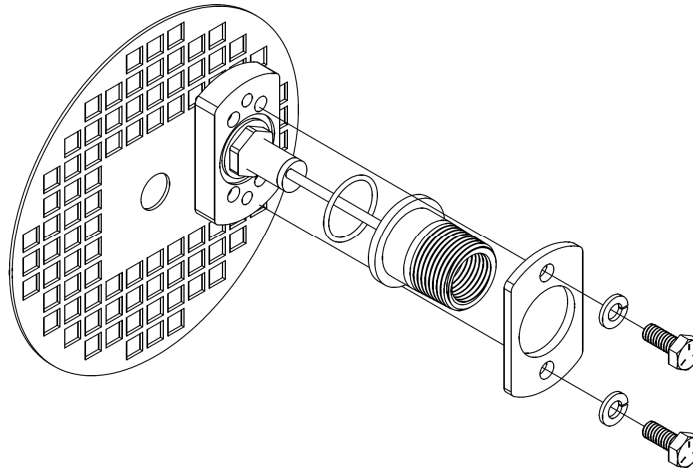

Figure 8: Compression Plate and Conduit Adapter Installation
- Slide the O-ring over the sensor and into the O-ring gland in the speed sensor mounting block. Next, slide the conduit adapter through the O-ring compression plate. Slide both the conduit adapter and O-ring compression plate over the sensor. Using a 7/16" open-end wrench (or crescent wrench), the (2) 1/4"-20 x 5/8" hex head screws, and the (2) 1/4" split lock washers, fasten the compression plate against the mounting block as shown in Figure 8 below.